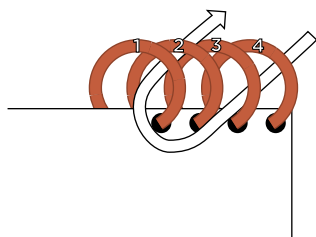

FIG. 1
3. Choose the corner of the tool that will best fit the size jump rings you want to use. Attach the 4 open **base-row** jump rings to the tool and then close them (**FIG. 1**). These are the 4 starter jump rings (first 4 jump rings of the base row).